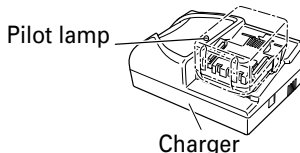

Fig. 4
2. Insert the battery to the battery charger. Insert the battery into the battery charger as shown in Fig. 4, 5.